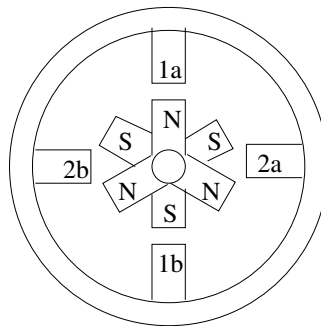

Figure 5.23: Hybrid stepper motor.
*Hybrid stepper motors*, finally, are a combination of permanent magnet and variable reluctance motors. They feature two stator phases and a permanent magnet rotor with teeth, like in Figure 5.23. This motor combines the higher torque of the PM motor with the high step resolution of the VR motor. It is controlled just like a PM motor, so it can be bipolar or unipolar.